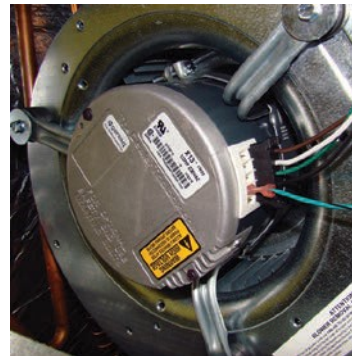

Fig 11.1
- 11.1.1. Select a starting speed tap from the CFM table. The blower motor has selectable speed taps labeled 1 through 5 (Fig. 11.1). The speed taps are energized by 24 volts received from the time delay relay. When two stage cooling units are used, both the first and second stage fan speed taps will be energized at the same time. The motor will run at the speed generated at the highest motor speed tap.